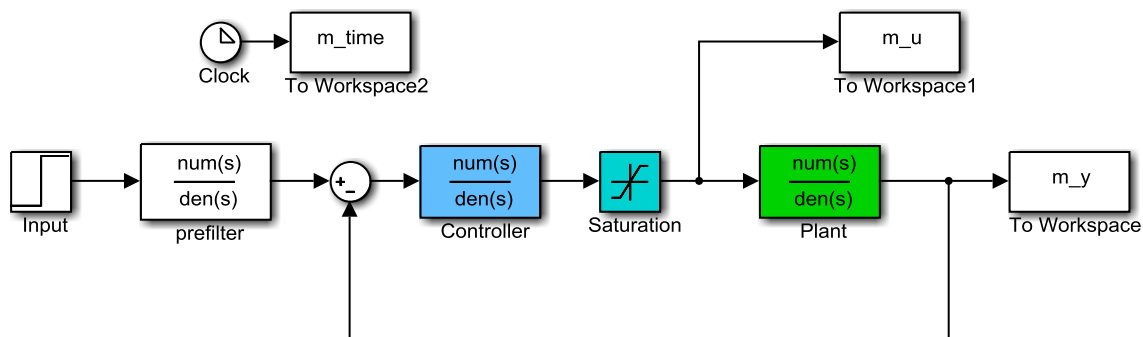

Figure 3. Simple feedback control system
8) (Matlab/Simulink) Download and uncompress the file **Model_Matching.rar** from the class website. The file **closedloop.slx** is a Simulink file for a simple closed loop system, as shown below in Figure 3.